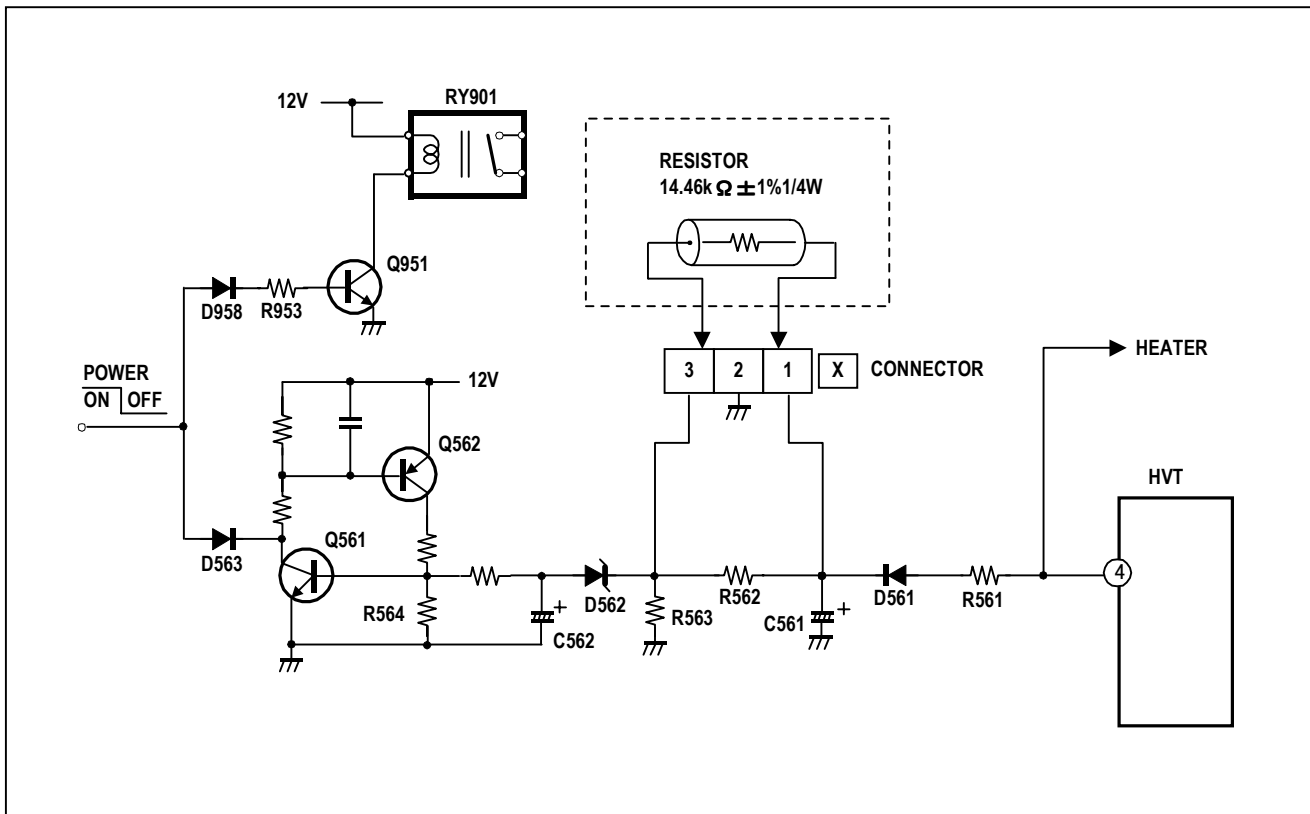

Fig. 1
- (1) Turn the POWER SW ON.
- (2) As shown in Fig. 1, set the resistor (between ☐ connector ☐ 1 & ☐ 3).
- (3) Make sure that the screen picture disappears.
- (4) Temporarily unplug the power cord.
- (5) Remove the resistor (between ☐ connector ☐ 1 & ☐ 3).
- (6) Again plug the power cord, make sure that the normal picture is displayed on the screen.